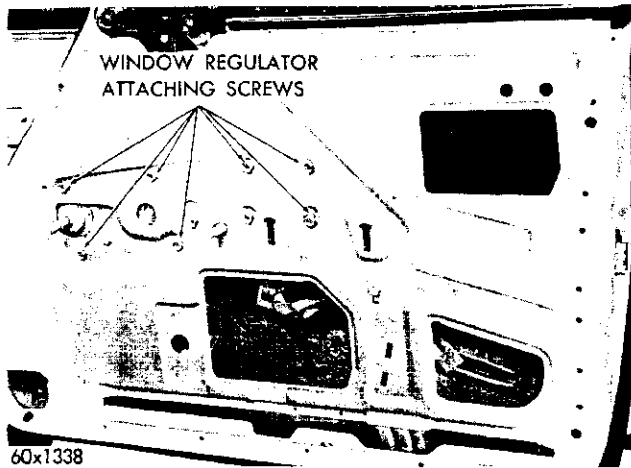
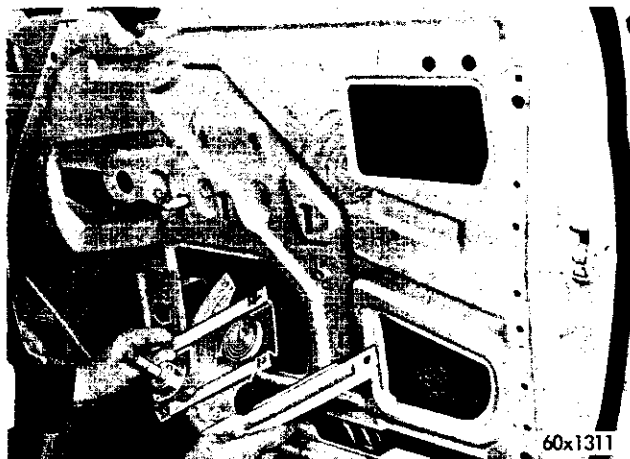
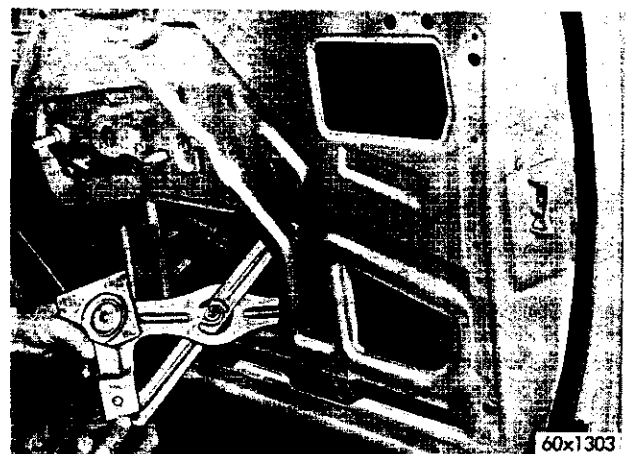

Fig. 50—Window Regulator Attaching Screws
Fig. 51—Removing the Front Window Glass Manual Regulator Assembly (Chrysler)
Fig. 53—Removal of the Glass Regulator Pivot Link
(1) Remove the garnish moulding, arm rest and remote control handles.
(2) Remove the trim panel and water shield.
(3) Raise the door glass and remove glass from regulator.
(4) Remove the regulator attaching screws (Fig. 50) and remove the regulator (Figs. 51 and 52) and pivot links (Fig. 53) through the door opening.
(1) Install the pivot link and regulator assembly (Figs. 51 or 53).
(2) After installing the regulator, turn the handle so the arm is in the raised position.
(3) Engage the regulator arm in the door glass lower channel. Lower the glass and install regulator arm retainer and clips.
(4) Install the trim panel and inside door hardware.
(5) Install the garnish moulding.